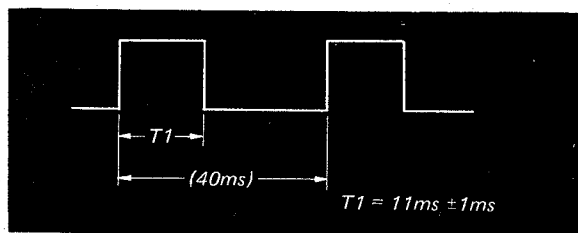

Fig. 7-1. Countdown multivibrator setting
2. Adjust R125 so that pulse width is 11 \pm 1 msec. See Fig. 7-1.